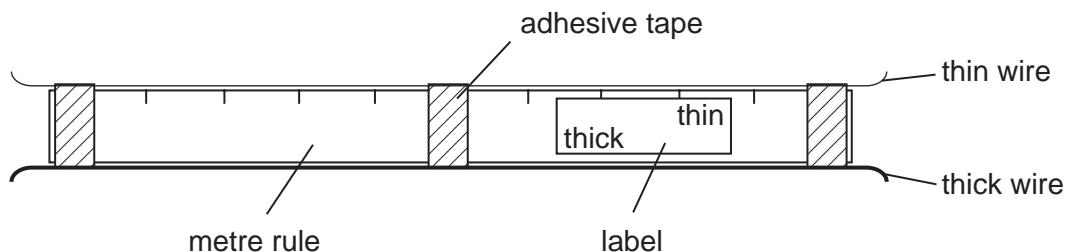

Fig. 2.1
- (ii) The two lengths of wire should be taped to opposite edges of the metre rule, as shown in Fig. 2.1. Approximately 10 cm of wire should protrude at each end.